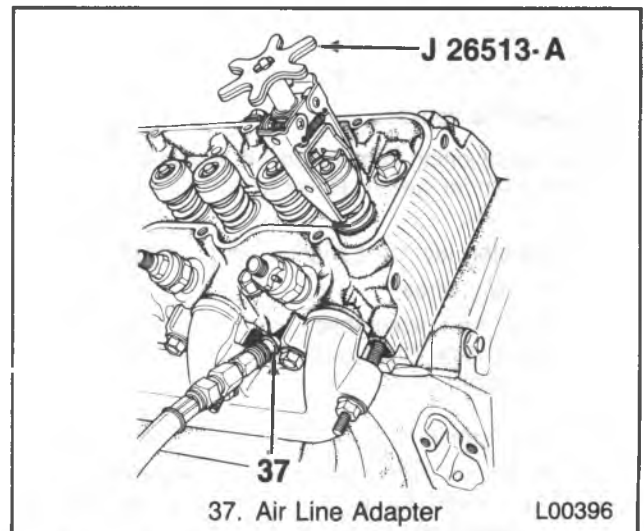

Figure 10 — Compressing the Valve Spring
- Use J 26513-A to compress the valve spring (figure 10). If the spring will not compress, tap on the tool lightly with a mallet to break the cap or rotator loose from the valve keepers.
- Applying air pressure to the cylinder being serviced, compress the valve spring with J 26513-A (figure 10).